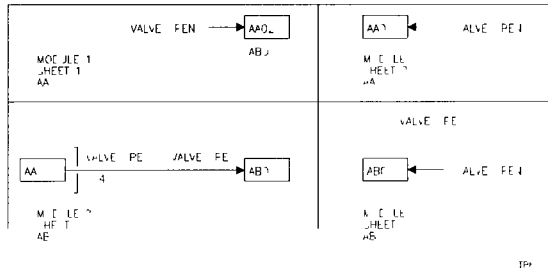

Figure 9.1 Symbol Cross Reference
- 4 The 30 character text string associated with input and output symbols must be unique for the cross reference program to work. The program allows an output symbol to reference input symbols within a module, and input symbols between modules using the same 30 character string. See Figure 9.1.